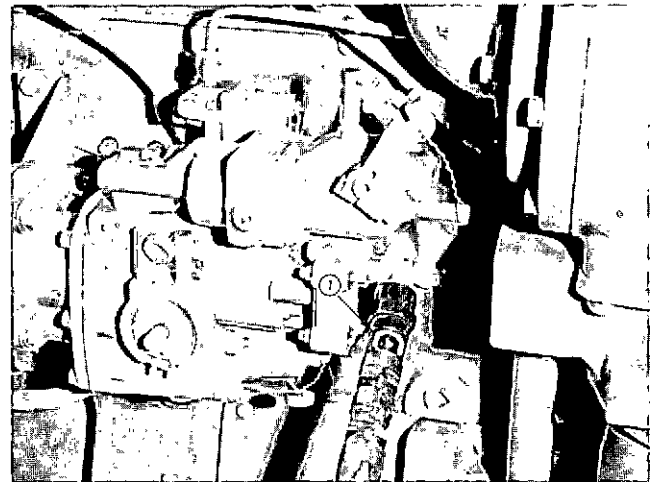

Fig. 5-2, V41923. Sight gauge in fuel suction line
2. If there are indications of air leaks on suction side of fuel pump, check for air leaks by placing ST-998 Sight Gauge (1, Fig. 5-2) in the line between fuel filter(s) and pump. Bubbles over ½ in. [1.270 cm] long or "milky" appearance indicates an air leak. Find and correct.